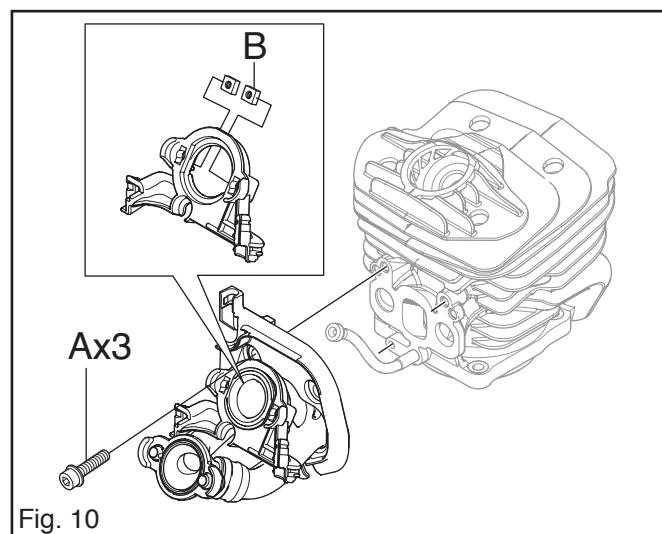

Fig. 10
3. Fit the intake manifold on the cylinder before fitting cylinder to crank case. Apply grease to the sealing surface. Tighten the 3 screws. The square nuts (B) can be changed if damaged. Connect impuls hose and fit into position. See fig. 10.